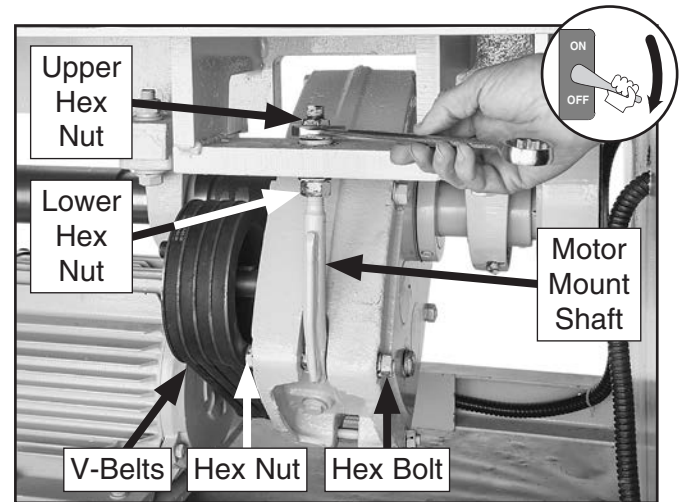

Figure 71. Loosening motor to remove V-belts.
3. Loosen hex bolt and hex nut that pass through motor mount shaft (see **Figure 71**).